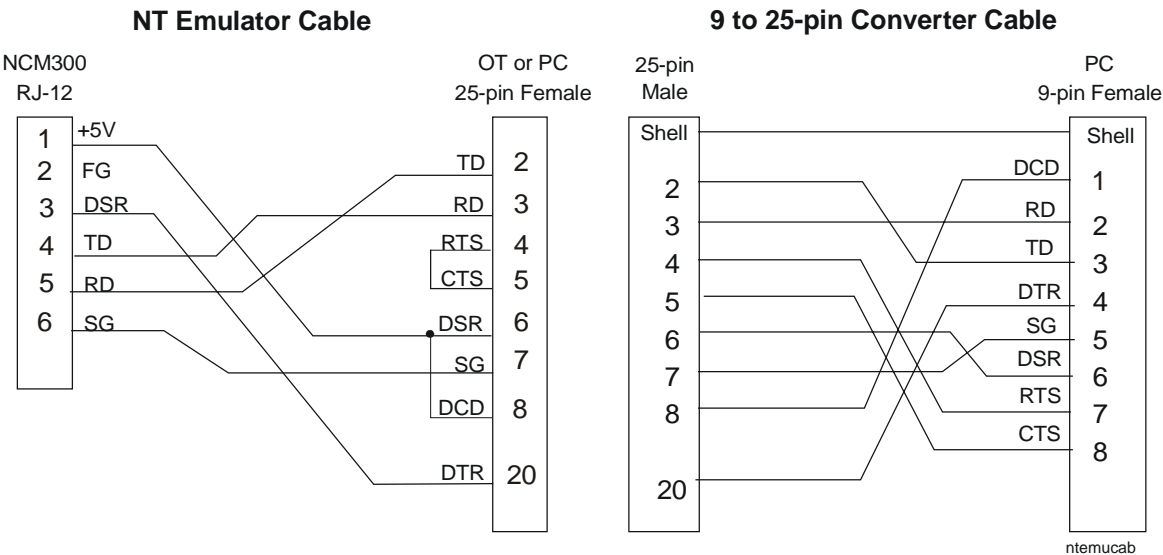

Figure 14: NT Emulator Cable for Connecting NT Emulator or OT to RJ-12 Connector (Port 4)
Port 4 is composed of two connections (RJ-12 and DB9) leading to the same circuit. Only one connection can be occupied at one time. The RJ-12 connector, a 6-pin telephone jack, supports Transmit, Receive, and Data Set Ready lines. This connection accepts **either** the NT cable for connection to the NT or the NT Emulator cable for connection to the NT Emulator or Operator Terminal (OT). The RJ-12 port does not support the Zone Bus Terminal. Figure 14 shows the NT Emulator cable for connecting the NT Emulator or OT to the RJ-12 connector (Port 4). (The 9 to 25-pin converter cable is necessary if the PC has a 9-pin serial port.)
- Port 4 (RJ-12 connector via an NT Emulator cable), see Figure 14
Figure 14 shows how to connect the OT via the RJ-12 connector of Port 4 using the NT Emulator Cable. Figure 16 shows how to connect the Operator Terminal (VT220) from the 9-pin connection of Port 2 or 4. (This connection requires a DB9 Female end for connection to the VT220.) Figure 17 shows how to connect the Operator Terminal from the 9-pin connection of Port 2 or 4 to either the 25-pin serial port or 9-pin serial port of the PC or the VT100.